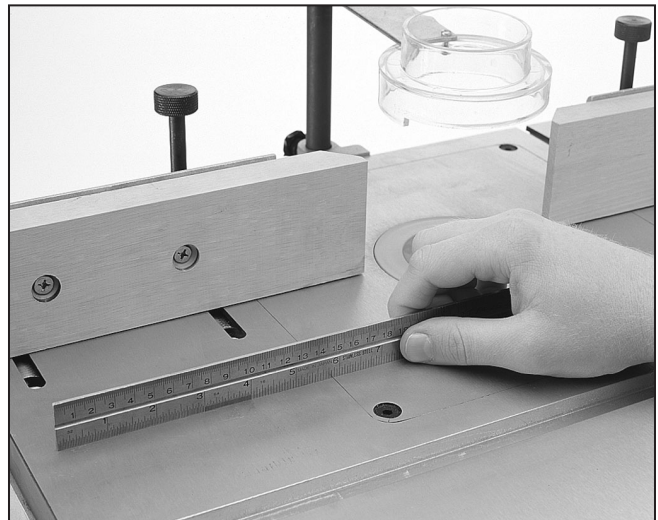

Figure 15. Checking insert for flushness.
Step 1 - Use a good quality straightedge and place it on the table surface so it rests above one corner of the router table insert. **Figure 15.**